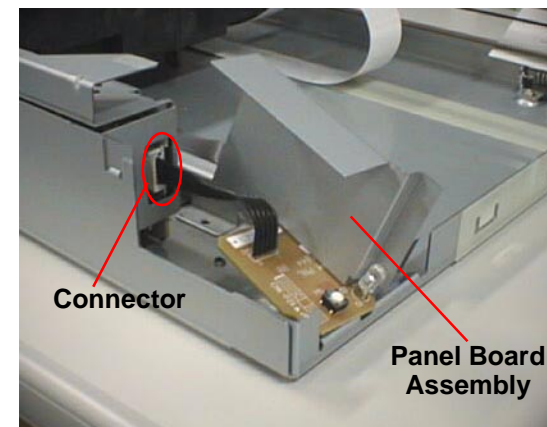

Figure 4-34. Panel Board Removal (2)
4. Remove the cable of the panel board from the power supply board connector (See figure 4-34)